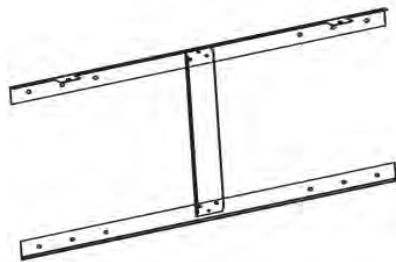

Figure 2
Step 2: Choose a solid and plain wall. Position the mounting bracket where the appliance is to be installed on the wall and ensure that the bracket is level. Using a pen mark the 4 holes through the 4 holes on the mounting bracket as shown below (Figure 2)